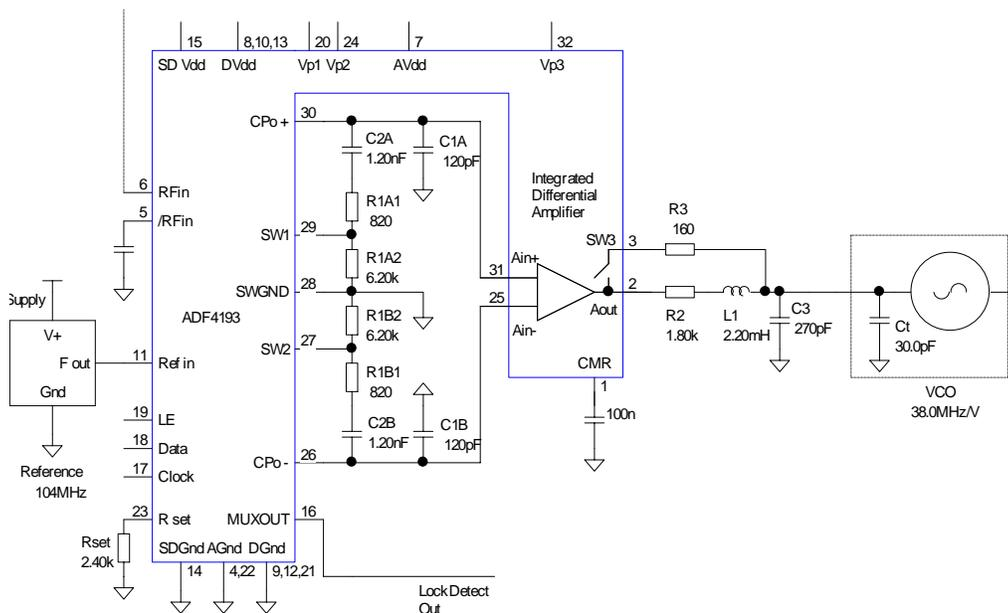

Figure 1. Initial Loop filter Design
3. Select Tools-> Build This results in the loop filter component values of Figure 1.